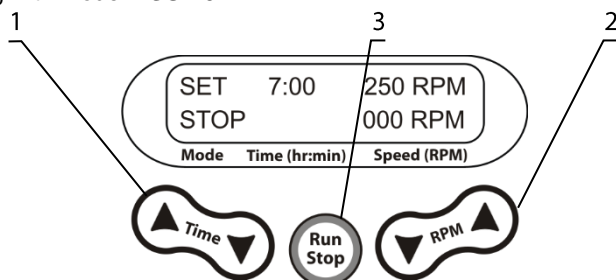

Fig. 2. Control panel of PSU-10i
- 5.1.3. Set the required working time interval in hours and minutes (the increment is 1 min) using the ▼ and ▲ **Time** keys (fig. 2/1). Pressing the key for more than 2 s will increase the increment.
- 5.1.4. Set the required shaking speed (the increment is 10 rpm) using the ▼ and ▲ **RPM** keys (fig. 2/2). Pressing the key for more than 2 s will increase the increment. The set speed is displayed in the upper line of the display.
- 5.1.5. Press the **Run Stop** key (fig. 2/3). The platform starts rotation, indication **RUN** appears on display and the timer in the lower line of the display starts counting the time interval.